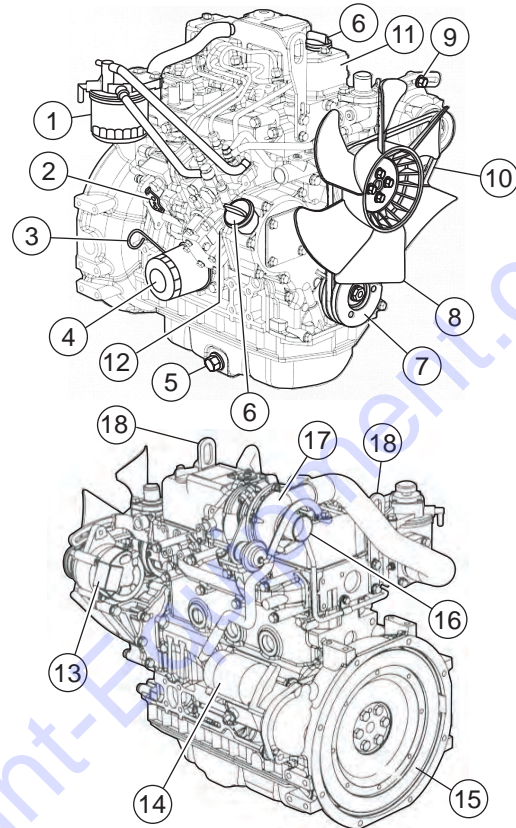

Figure 22. Engine Service Areas
- Remove the oil filler cap (Figure 22, Item 6), and fill engine crankcase with recommended type oil as listed in Table 4. Fill to the upper limit of dipstick.